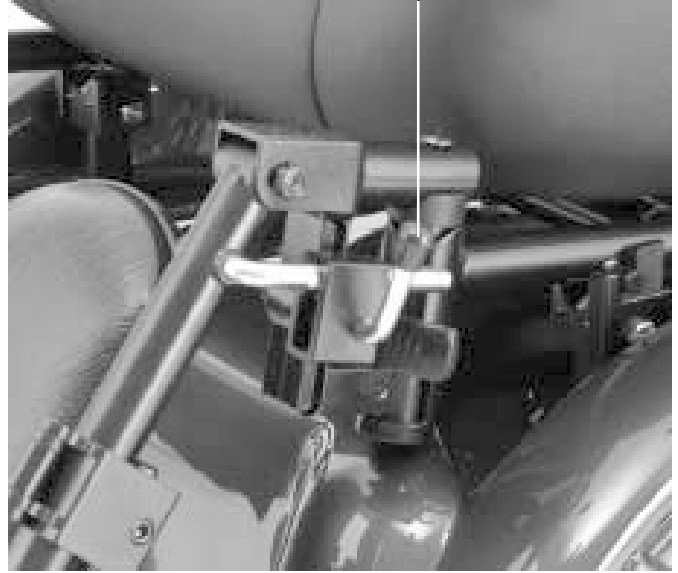

Figure 23. Elevating Leg Rests
1. Press the release lever. See figure 23.